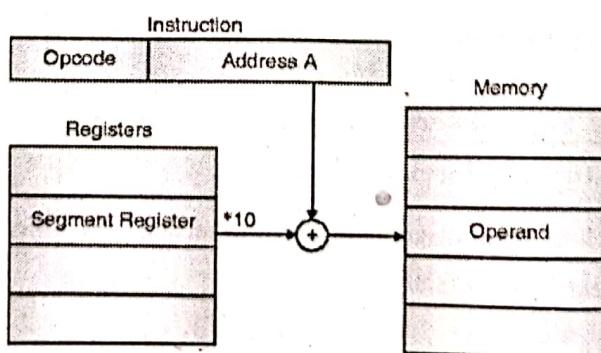

Fig. 5- Q. 5(a) : Direct addressing
- In this mode, the 16-bit effective address EA is directly given in the instruction. The physical address is generated by adding this 16-bit direct address to segment register *10 H as shown in the Fig. 5- Q. 5(a).